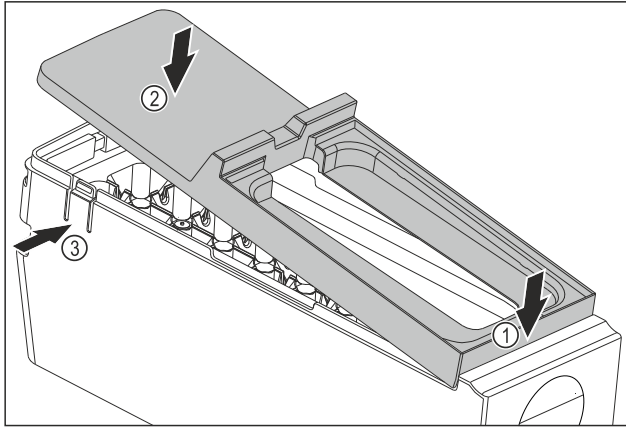

Fig. 127
- ▶ Installing the cover of the EasyTwist-Ice body: Fit the cover at the front. Fig. 127 (1)
- ▶ Lower the cover at the rear. Fig. 127 (2)
- ▷ The cover snaps audibly into place in both tabs Fig. 127 (3).